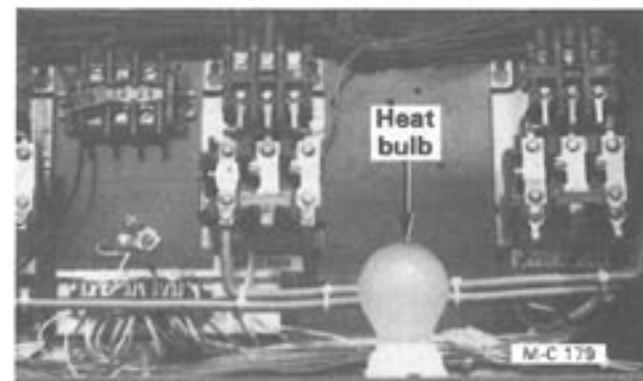

Figure 14
- The heat bulb in the upper control cabinet, Figure 14, will always be on when the electric power supply to the dryer is on. It does not have an ON-OFF switch.